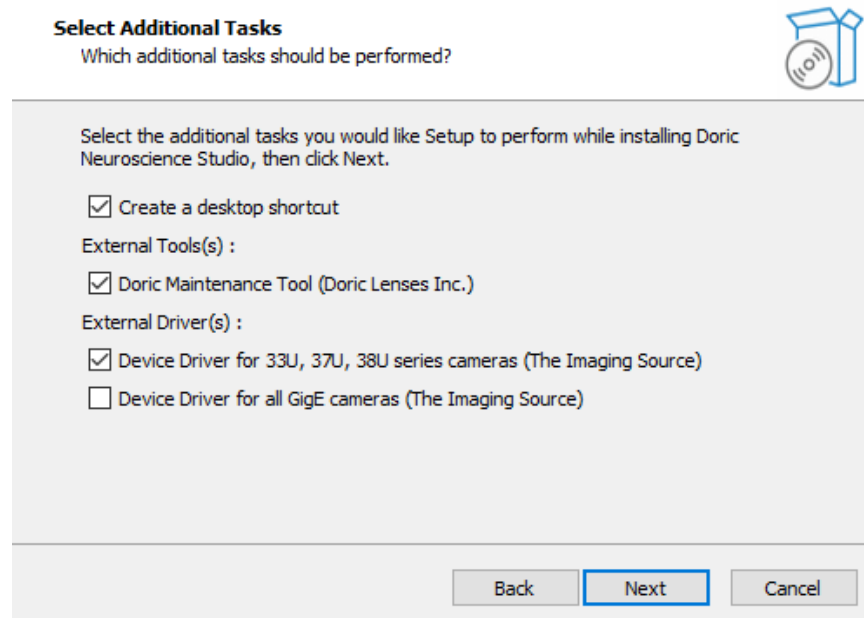

Figure 2.2: Select complementary installations
- Select **Create a desktop shortcut** if you want a shortcut to launch the software on your desktop (Fig. 2.2).
- Select **Doric Maintenance Tool** to install the Doric service system to update device firmware, more update information will be provided further in this user manual. We highly recommend making this installation and keeping the devices and software up to date (Fig. 2.2).
- Select **Device Driver for 33U, 37U, 38U series cameras** to installed the drivers for USB cameras. This is necessary mainly for **Behavior Camera** and **BPFD systems** (Fig. 2.2).
- Select Device Driver for all GigE cameras to install the drivers for Ethernet cameras (Fig. 2.2).